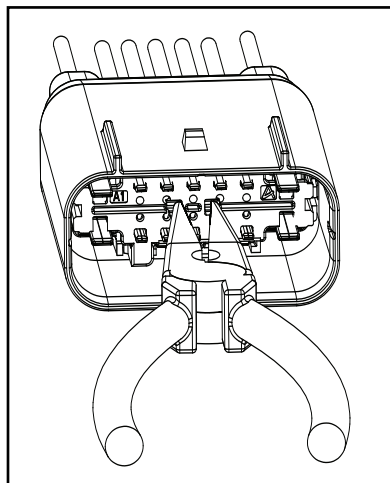

FIGURE 10
- Grip the TPA with a pair of serrated needle nose pliers by using the appropriate holes in the center of the TPA (Figure 10).